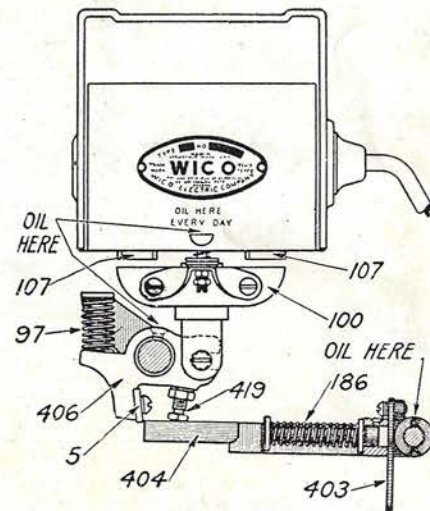

Fig. 8
Separate the armature No. 100 (Fig. No. 8) from the poles of the magnet No. 107 (Fig. No. 8) and insert a nail or wire about $\frac{3}{32}$ " diameter between armature and each pole. Then turn the flywheel of the engine until the push rod goes clear back toward the flywheel. The cam roller will then be on the lowest point on the cam. Then slide the carrier No. 46 along the push rod until the point of the latch No. 404 (Fig. 8) is about $\frac{1}{4}$ " past the head of the adjusting screw No. 419 (Fig. 8) with the lever No. 403 pointing downward as shown.
J4. Trouble Hunting.—If ignition trouble is suspected, disconnect spark wire from plug and observe spark between wire and engine frame by holding end of wire about $\frac{1}{8}$ " from frame while cranking engine. If good spark is produced trouble may be caused by dirty spark plug. If no spark is produced when magneto is operated, the trouble can be located by proceeding as follows: see that the armature (100) returns and makes a firm contact with the cores (107) after being tripped off. Failure to make firm contact indicates friction of moving parts caused by lack of oil. Remove any dirt from between armature and face of cores. Turn the flywheel over slowly and see that when the armature (100) is tripped it snaps quickly away from the cores (107). Failure to do this indicates binding or friction or a broken drive spring (186). Check up the "latch-off" of the trip finger in drive, and if wrong, make it right. (See below.) The latch should slip off the rocker arm just after the armature has opened $\frac{3}{32}$ " to $\frac{1}{4}$ ". If necessary to adjust, proceed as follows: trip the armature (100) from its contact with the cores (107) and insert a strip of metal $\frac{3}{32}$ " thick between the armature and the face of the cores. Move the push rod slowly until the latch of the trip finger reaches the rocker arm. The edge of the latch should then just engage the edge of the latch block (5) on the rocker arm (406), and the adjusting screw (419) should be bearing on the top side of the latch, (See Figure 8), so that the least further movement of the push rod will cause the latch to slip off the latch block. If the latch does not engage the latch block when the armature is set as above, the adjusting screw should be screwed in until the latch just engages. If the latch engages the latch block too much (more than $\frac{3}{32}$ "), unscrew the adjusting screw to give the proper engagement. Loosen the lock nut on the adjusting screw (419) before attempting to change adjustment and be sure to set it up tight after the adjustment has been made. Before attempting to start the engine, remove the metal strip that you placed between the armature and the cores.